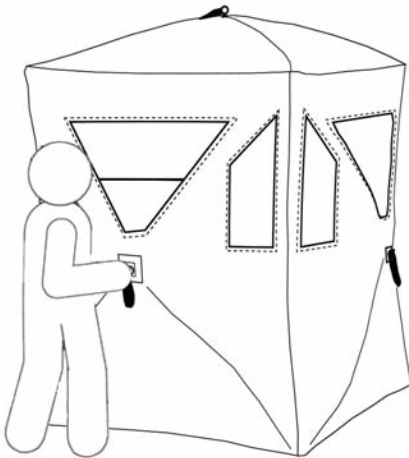
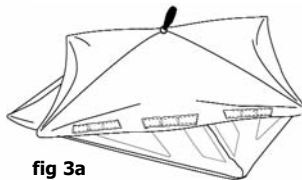

fig 3
fig 3a
Step 3: Repeat on remaining walls (fig 3). Once all **WALL HUBS** have been pushed in, the blind will collapse onto ground. Twist roof so that blind corners are as shown (fig 3a).